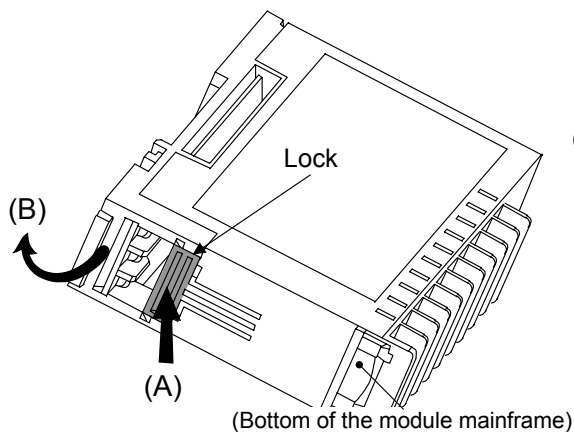

Fig.1: Removing the base
2. Remove the base from the module (B) while the lock is pressed (A). (Fig.1)